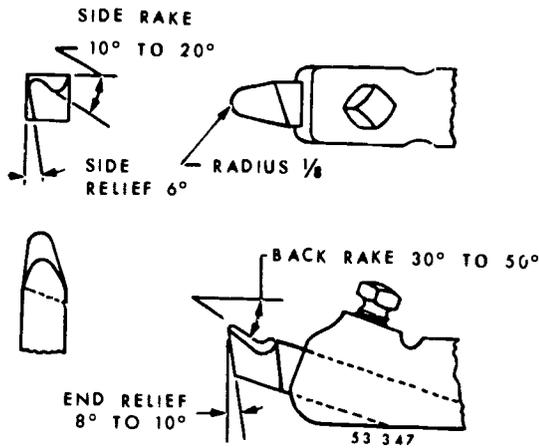

Figure 28 Aluminum shear tool
c. Aluminum shear. Use the *aluminum shear tool*, shown in figure 28, for finishing cuts on aluminum.